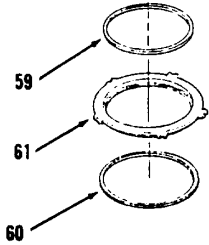

Figure 14-55.
- 25. Install ring (60 and 59) in piston (61, Figure 14-55).